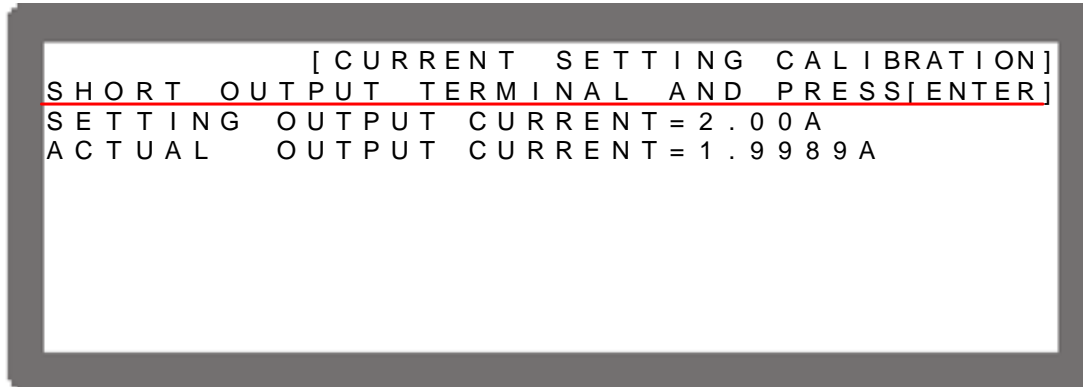

Figure 3-107
- (1) Set the Electronic Load to CV mode 5V. Short the output terminal directly if there is no Electronic Load.
- (2) In CALIBRATION page, press “3” or turn “Rotary” (⊙) knob to set CHOICE=3.
- (3) Press “” to confirm and enter into current calibration options as Figure 3-107 shows.